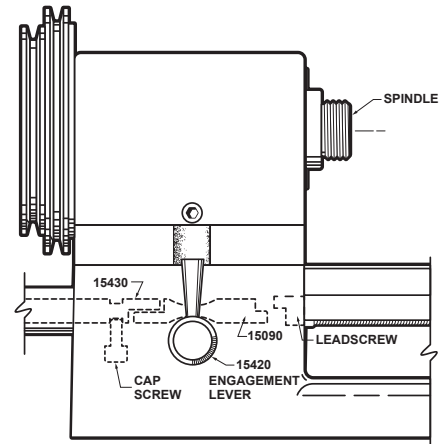

FIGURE 1—Leadscrew engagement shafts in place inside the leadscrew support tube.
2. Grease the shaft with flats on both ends (P/N 15090) and slide it into the protruding leadscrew support tube situated directly below the main spindle pulley. Ensure the end with a small flat enters first. Now slide the shaft with a single flat (P/N 15430) into the leadscrew support tube. To guarantee that the shaft is "home," turn it one or two revolutions while applying gentle inward pressure to the end of the shaft (See Figure 1).
- A. Replace the sliding shaft (P/N 15090) with the DRO sliding shaft (P/N 81509). The DRO sliding shaft is about 1/16" longer than the standard sliding shaft. (See Figure 1 on the previous page for reference.)